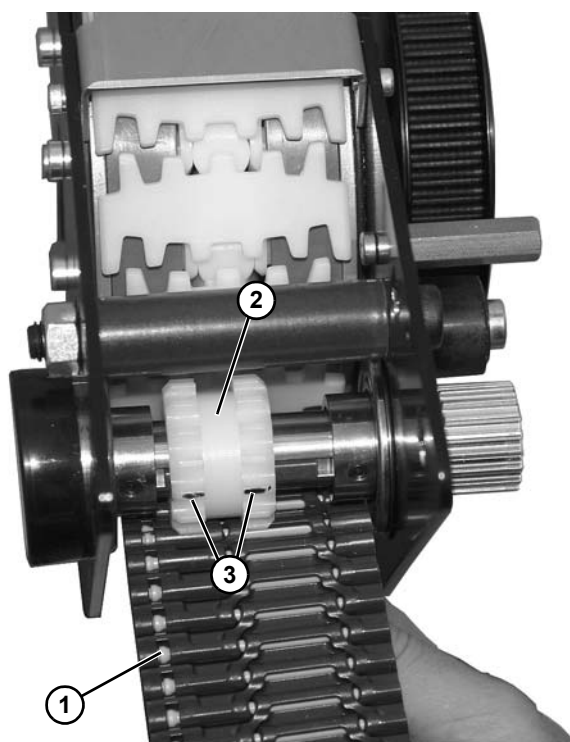

Figure 171
3. Raise belt (**Figure 171, item 1**) into position, and move gear (**Figure 171, item 2**) so that cogs line up with belt, as shown.
4. Tighten sprocket with set screws (**Figure 171, item 3**) in proper alignment with belt (**Figure 171, item 1**).